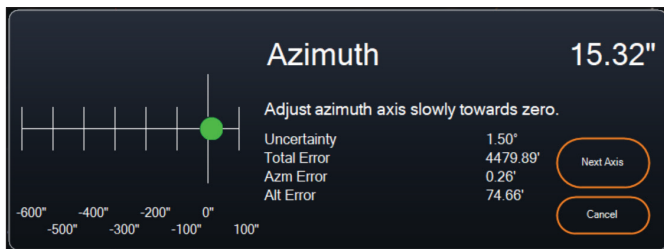

Fig. 18: Azimuth Axis Adjustment window during polar alignment in CPWI.
4. After SSAG has obtained its polar alignment references, it will display the azimuth axis adjustment window (Fig. 18). Slowly fine-adjust your mount's azimuth until the "Azimuth Error" is less than two arcminutes.